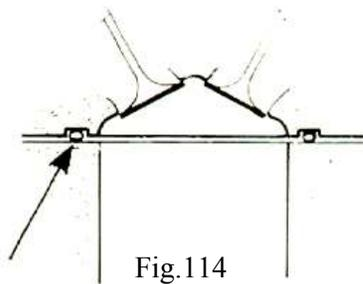

Fig.114
3. Use a compression reducing plate between head and block... not advisable except as a last resort, due to the fact that the plate, usually with a head gasket on either side, acts as a heat flow barrier and will often “cook-up” and cause detonation. If it has to be used, then the only acceptable way is sealed with “Wills” (gas filled expansion) rings, top and bottom. (Fig.114)